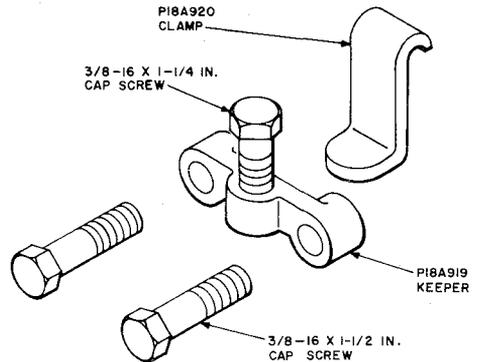

Fig. 6—50A Hanger Assembly for Aerial Use
2.09 Two 50A hangers are required to make an aerial installation. They must be ordered separately for all splice cases except the 20A1, 20B1, 21A1, and 21B1 with which they are furnished (Fig. 6).